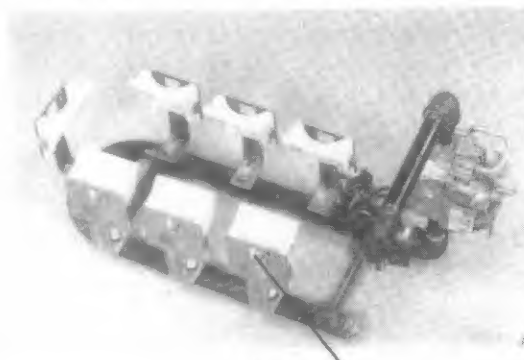

Fig. 11
- 3) Unlock the ceramic target locking tab with needle nose pliers or screwdriver, slide the ceramic target up off the deflector. See Figure 11.